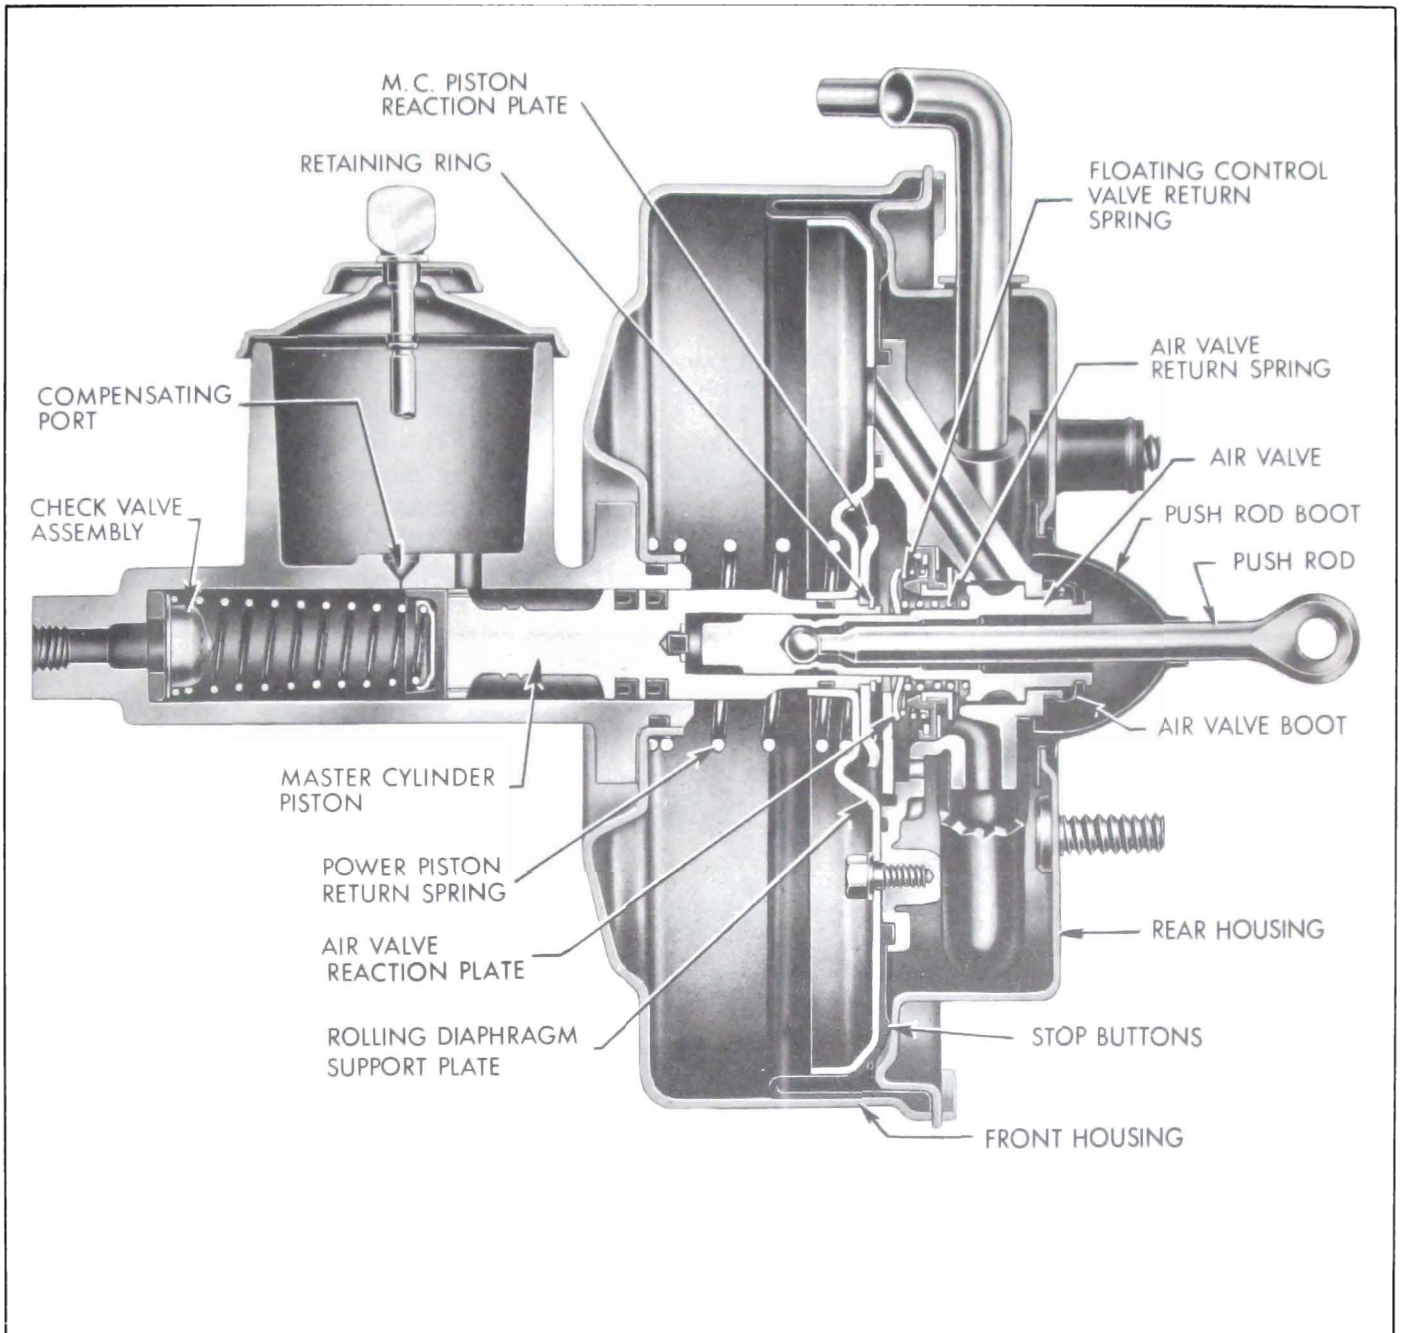

Figure 9-15—Power Brake Unit—Released Position
The power cylinder is the "air-suspended" type, meaning that atmospheric pressure is present on both sides of the power piston in the unapplied stage. As shown in Figure 9-15, a front and rear housing interlock to form a large chamber in which the power piston and related parts operate. The section to the rear of the piston is called the Air chamber since it is open to atmospheric pressure at all times. The section to the front of the piston is called the vacuum chamber since it is subjected to manifold vacuum during power application of brakes. All air entering the cylinder passes through an air filter located in the passenger compartment.
(1) Released Position, See Figure 9-15. The air valve return spring holds the air valve, push rod, and brake pedal rearward so that the air valve is clear of the floating control valve. Although vacuum is present at the floating control valve through the flexible hose, the control valve return spring holds the rubber face of the valve against its annular seat in the power piston, thereby closing off manifold vacuum.
piston are now open to atmospheric pressure, the piston return spring forces the power piston and related parts rearward to the un-applied position (Figure 9-15).
NOTE: Refer to Figures 9-15 thru 9-19 for identification of parts not shown in figures next to overhaul steps.